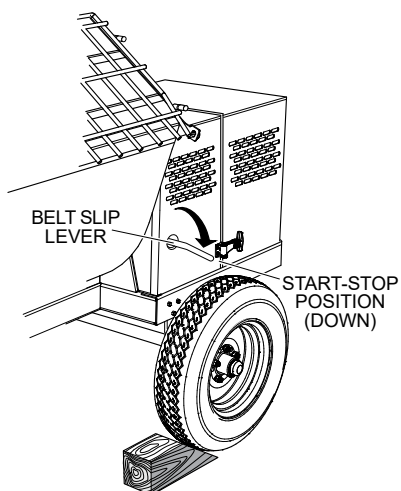

Figure 22. Belt Slip Lever (START/STOP Position)
6. Place the belt slip lever in the **START/STOP** (disengaged) position. See Figure 22.